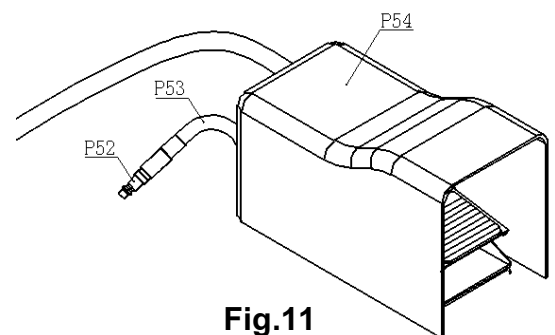

Fig.11
16.1.1.1 Connect the air hose (P52) of air foot valve to workshop air compressor supply. (Fig.11)
16.2.1.1 Connect the air hose (P52) of air foot valve to workshop air compressor. (Fig.11)